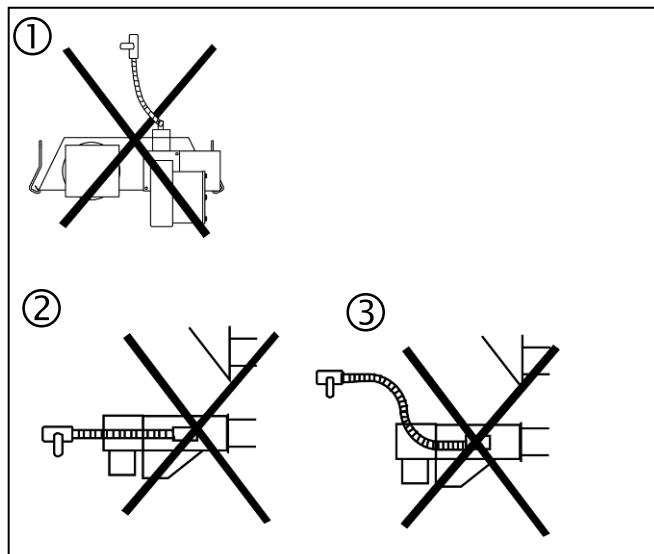

Fig 23: Wrong mounting of flexible hoses
- ⇒ Wrong mounting of flexible hoses shown in Fig. 23 (sketches ① to ③)